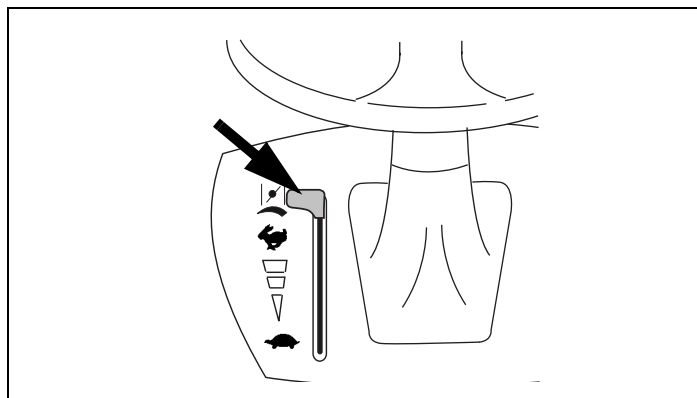

Figure 8. Combined Speed and Choke Control
2. Move combined control to "CHOKE" or "START" position (see equipment manufacturer's instructions). See Figures 8 and 9.
If restarting a warm engine after a short shutdown, move combined control to "FAST" position instead of "CHOKE" or "START" position. See Figures 8 and 9.